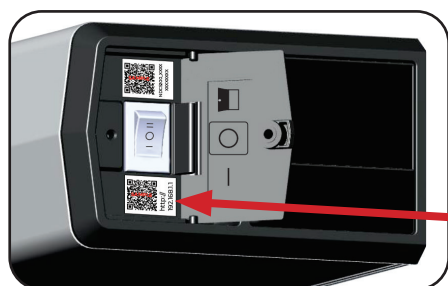

Figure 17
- Use the camera application on your smart device to scan the Product Website QR Code located on the switch end cap of the operator. (Figure 17)